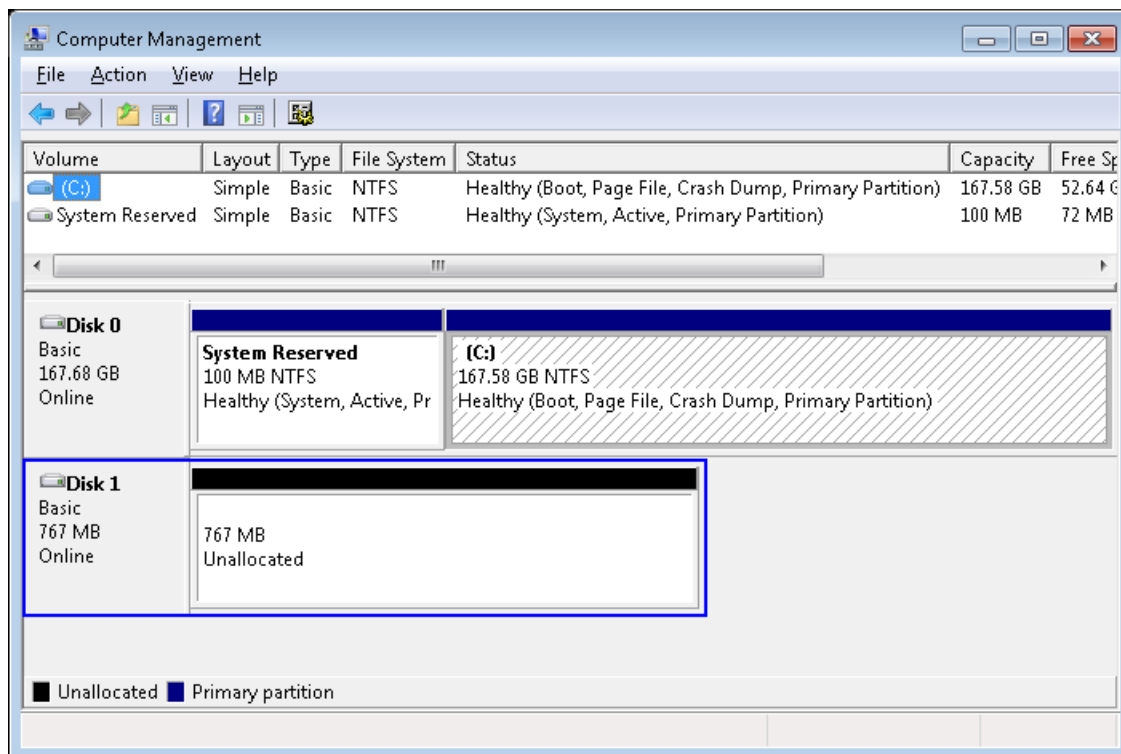

Figure 6 Initialize Disk Completed
- After that, new 768 MB disk which is unallocated will be displayed as shown in Figure 6.